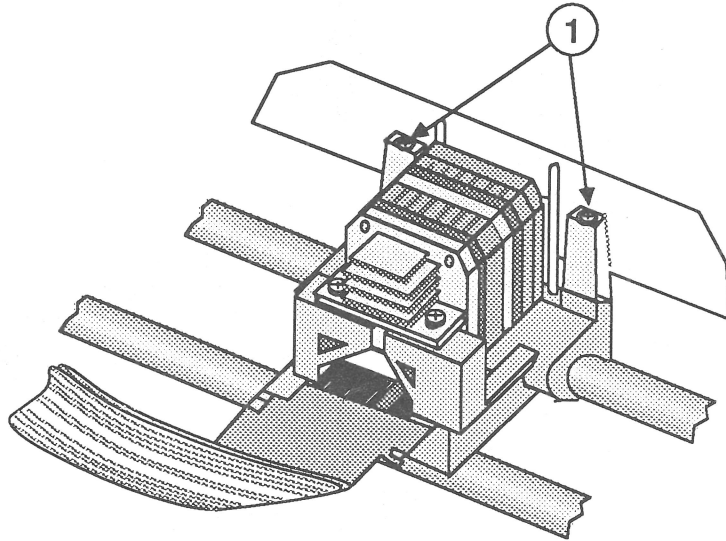

FIGURE 4
2. Remove the two Phillips screws that secure the card guide to its two mounting posts (Figure 4, #1).